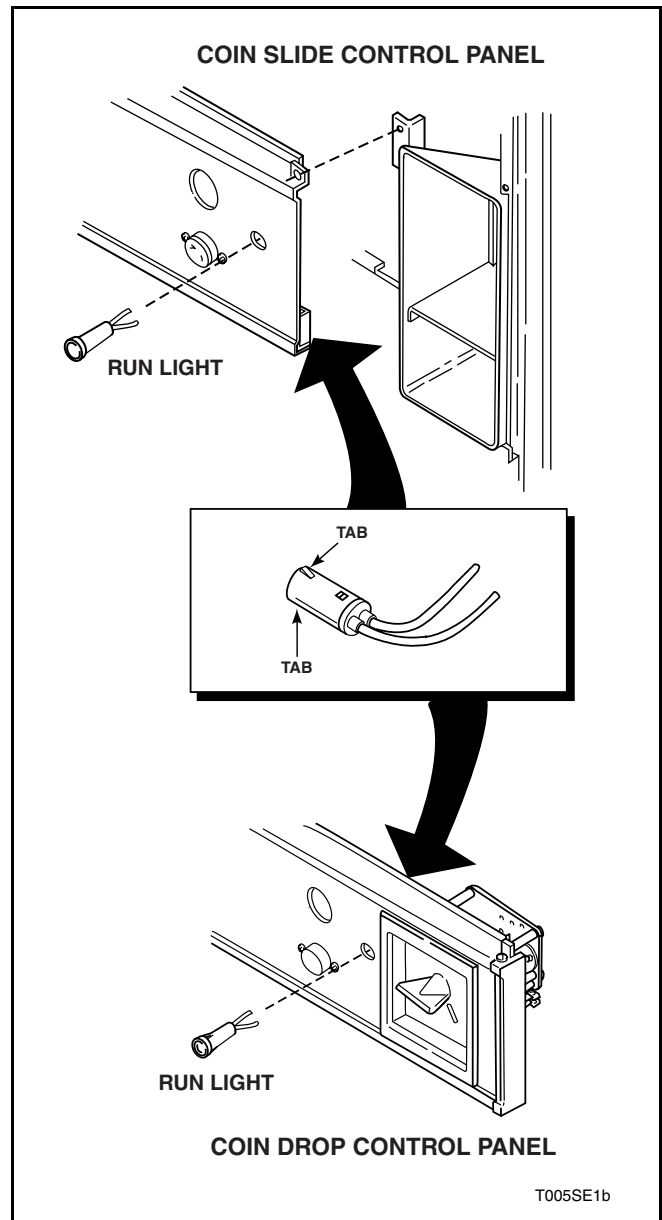
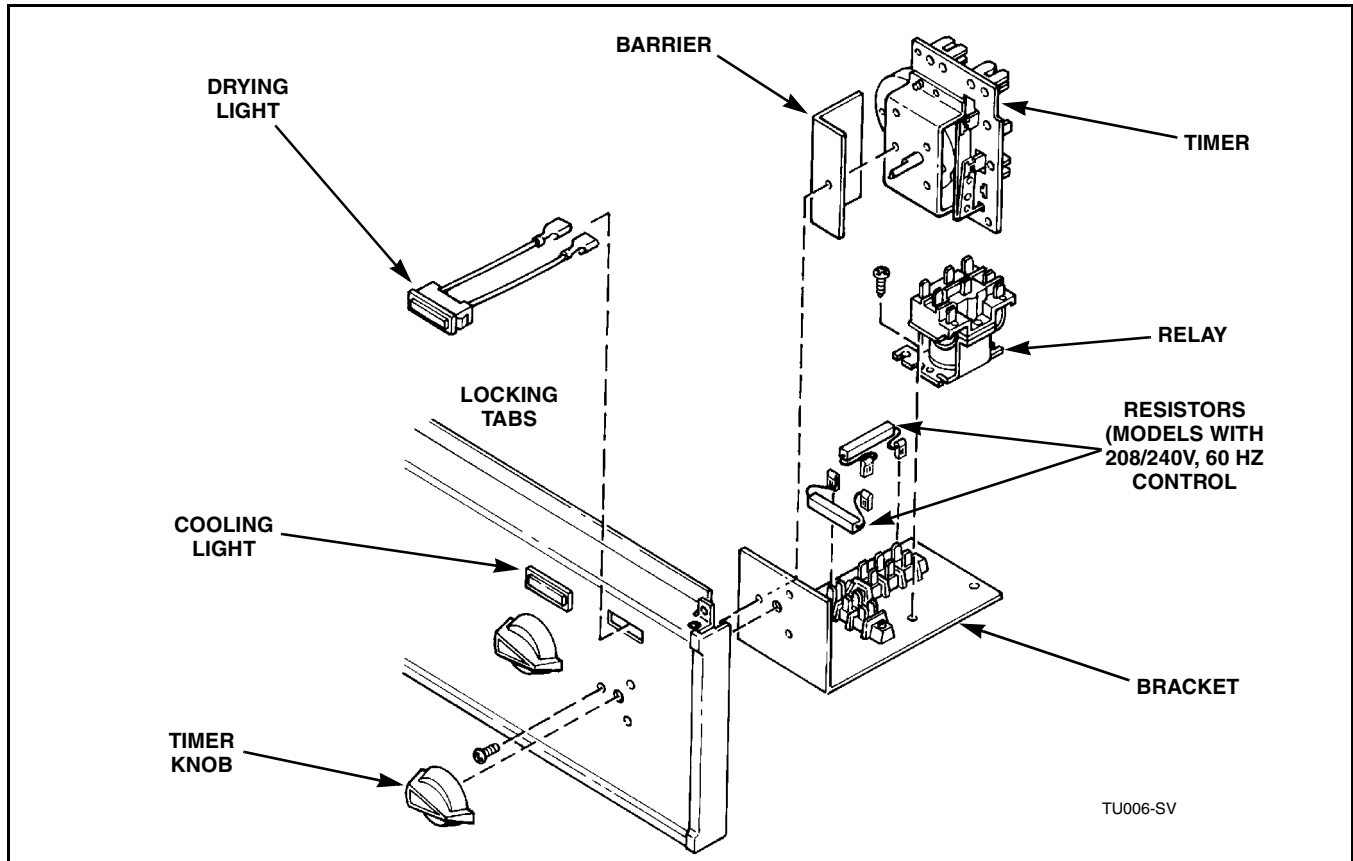
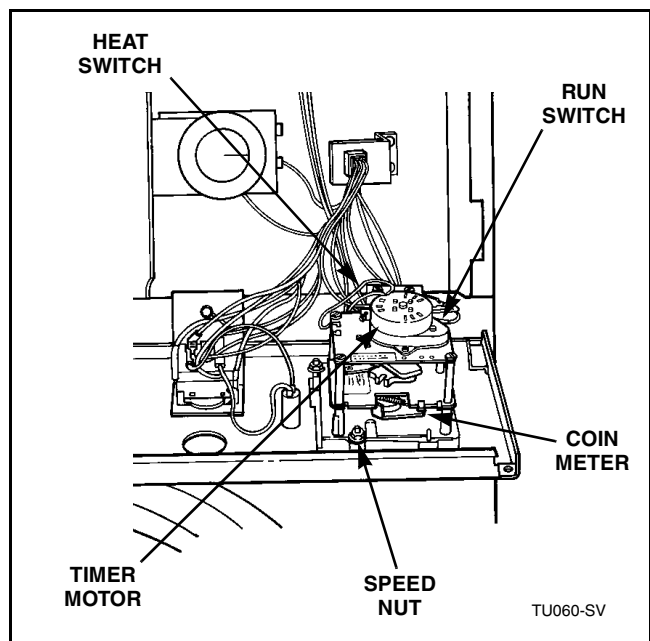

Figure 4
Figure 5
Figure 7
- c. Compress locking tabs on sides of light and push light through front of control panel. (Refer to *Figure 4*, Coin Models; Refer to *Figure 5*, Manual Timer Models).
- Remove two screws holding relay to bracket. Refer to *Figure 5*.
- Disconnect resistor leads. Refer to *Figure 5*.
- Pull timer knob off timer shaft. Refer to *Figure 5*.
IMPORTANT: Be sure barrier is installed in proper position when reinstalling drying timer. Refer to *Figure 5*.
- (1) Pull timer knob off timer shaft. Refer to *Figure 5*.
- (2) Remove three screws holding timer to control panel or mounting bracket.
- (3) Remove wires from timer terminal board, and timer motor lead from terminal block.
- (4) Connect timer terminal wire 3 to terminal board terminal B.
- (5) Connect timer terminal 5 wire to terminal board terminal C.
- d. Remove four speed nuts holding coin meter to coin meter frame. Refer to *Figure 7*.